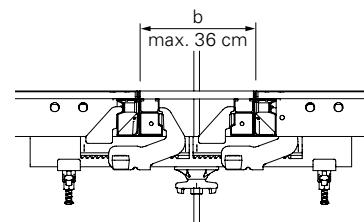

Fig. C9.02b
When anchoring, ensure that the tie forces are transferred centrally through the Compensation Waler MAR 85 (21) to the adjacent panels. (Fig. C9.02b)